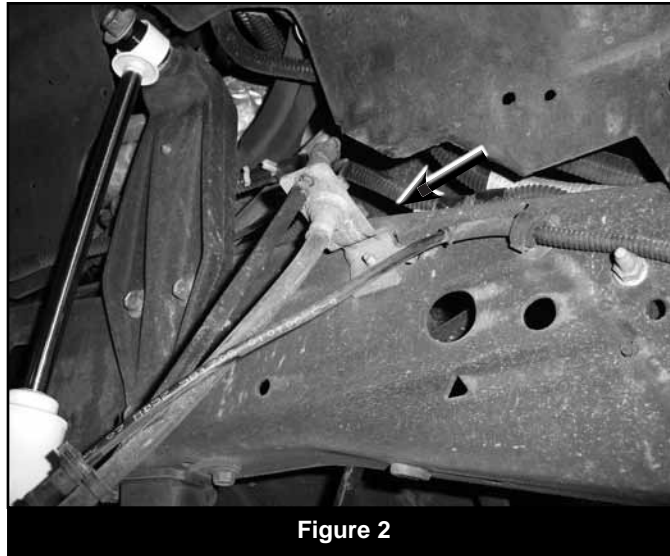

Figure 2
8. Locate the brake line mount bracket on the frame. Using pliers, bend the bracket down about 45-60 degrees away from the frame (Fig 2). After the bracket is reformed, remove the mounting bolt and remove the bracket from the frame. Save hardware.